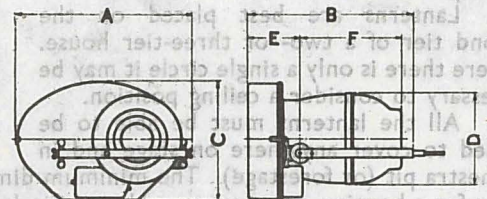

Fig. 7—Pattern 76, type C/C.E.
* For these Dimensions see Fig. 7